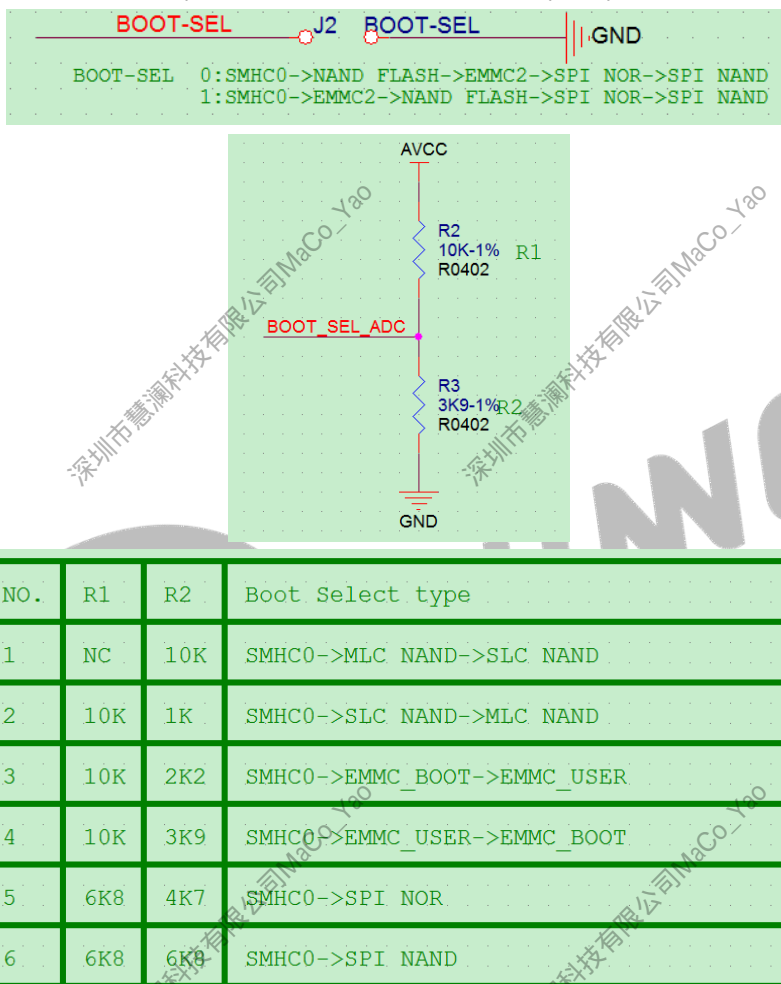

Figure 2-10 BOOT-SEL Signal Design
- BOOT-SEL/BOOT_SEL_ADC are the configuration pins for the BOOT sequence of storage media, which can adjust the BOOT sequence of NAND and eMMC. The BOOT-SEL/BOOT_SEL_ADC can be configured according to the requirements of the product. R818 turns on the BOOT_SEL_ADC pin to recognize the BOOT sequence and floats the BOOT-SEL pin by default. As shown in Figure 2-10.